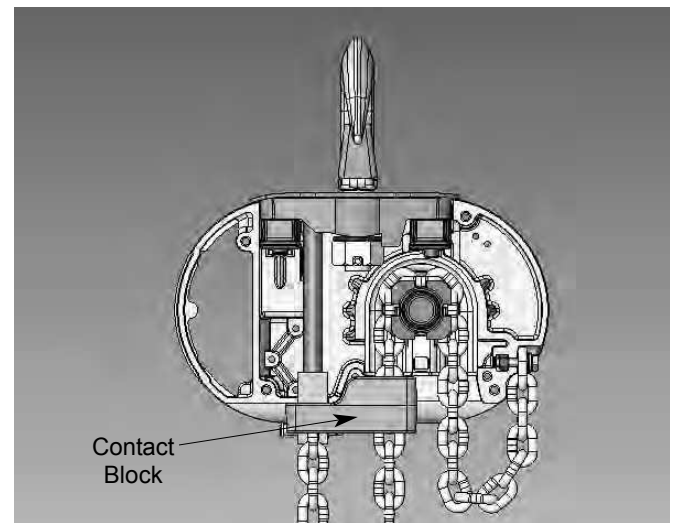

Figure 8. Contact Block Used On Models R & RR.
3. Remove the clip (1) by inserting a screw driver blade through a chain link and levering against the bottom of the hoist. Slide the contact block up the chain until it is against the bottom of the hoist and the dead end block is projecting through the square opening in the bottom of the block. Insert the last link of the load chain, making sure there are no twists between the hook block and the dead end block, into the dead end block. Push the contact block up slightly and secure the load chain to the dead end block using the dead end pin, washer and cotter pin furnished with the suspension. The dead end pin also supports the contact block (See Figure 8).